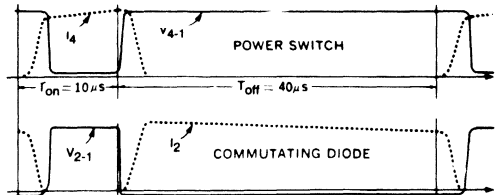

Figure 2. SM645, 646, 647 Switching Waveforms
- In switching an inductive load, the current will lead the voltage on turn-on and lag the voltage on turn-off (see Figure 2). Therefore, Voltage Delay Time (t_{DV}) $\geq t_{di} + t_{ri}$ and Current Storage Time (t_{sj}) $\geq t_{sv} + t_{fv}$.
- As can be seen from the switching waveforms shown in Figure 2, no reverse or forward recovery spike is generated by the commutating diode during switching! This reduces self-generated noise, since no current spike is fed through the switching regulator. It also improved efficiency and reliability, since the power switch only carries current during turn-on.